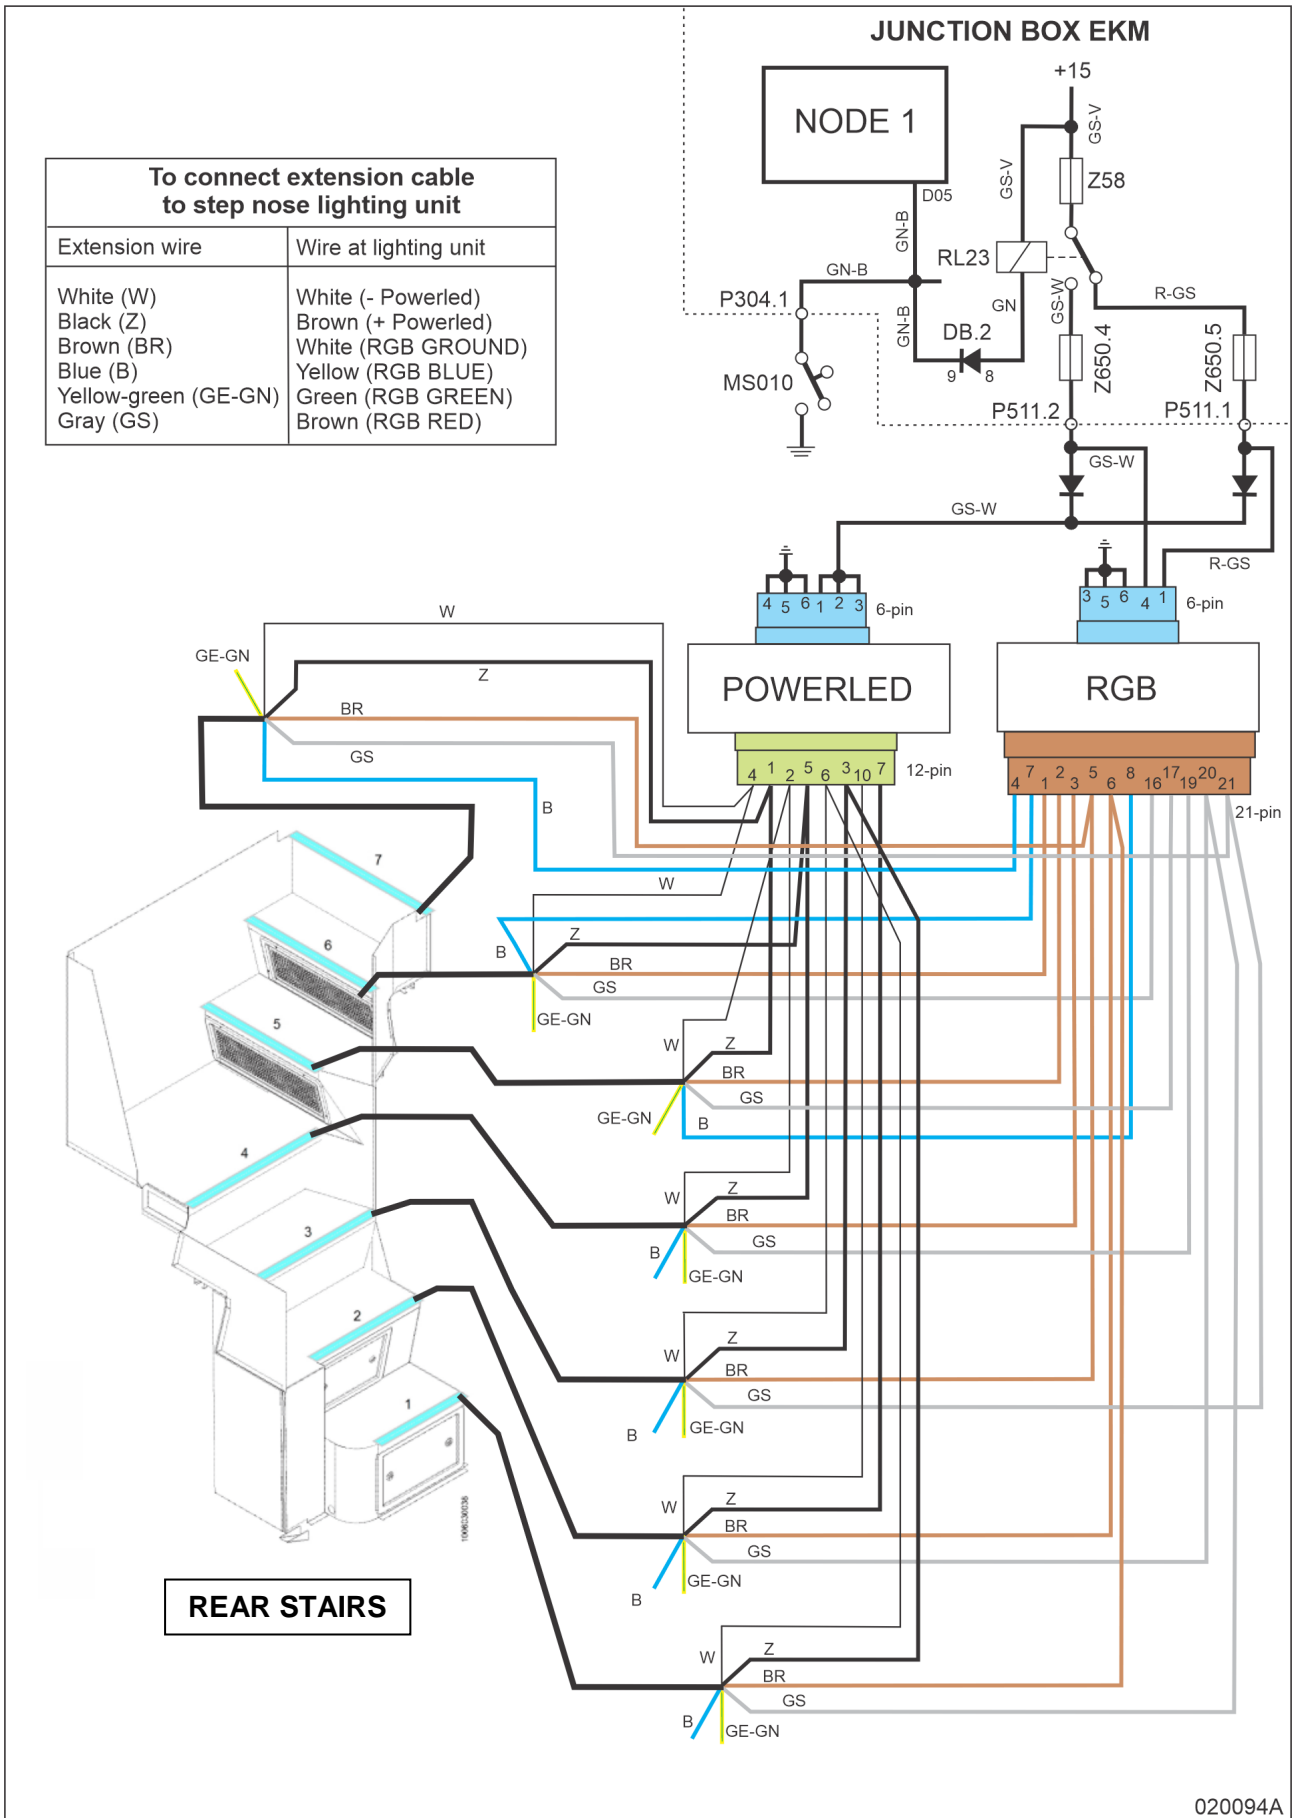

Figure 9: Wiring diagram of step nose lighting at rear stairs
- Figure 9 shows the wiring harness of the step nose lighting at the rear stairs. The wiring harness is connected in such a way that the “upward” light of all step noses illuminates “red” and the “downward” light illuminates “white” when the rear door is open. If the rear door is closed, the “upward” light of the three upper steps illuminates “blue” and the downward” light of all steps illuminates “white”.